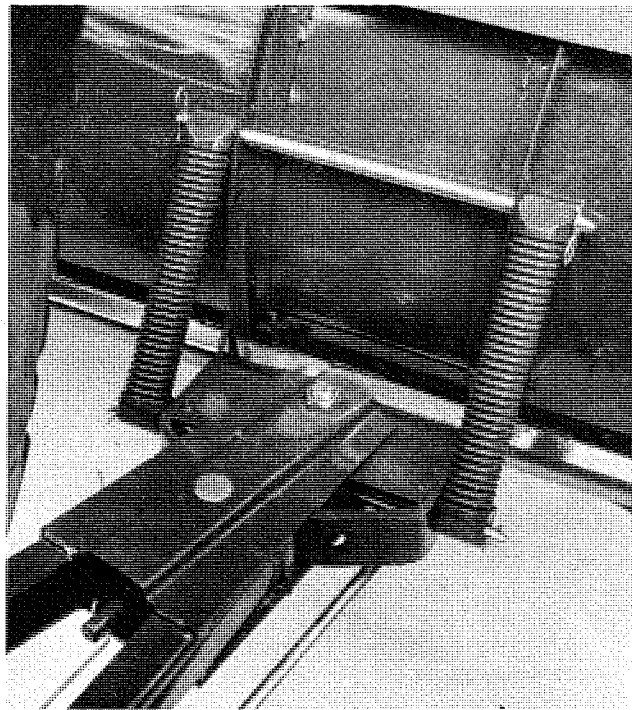

FIG. 2
4. Remove the large $\frac{3}{4}$ nut and bolt holding the pilot sector. Remove the pivot sector. The blade control rod, Part No. 104338, is inserted through the bottom of the pivot sector, and secured with the hairpin cotter. Bolt the pivot sector, Part No. 5102, to the frame assembly using the hex bolt, Part No. 908256, and Part No. 915640, elastic stop nut. (NOTE: Apply a liberal coat of grease before installing.) Install the bolt from the bottom and tighten, leaving it loose enough for the blade to swing free. See Fig. 2. Attach the control rod to the index lever.
5. Attach the blade assembly, Part No. 5109, to the pivot sector using Part No. 4564, lower pivot rod, and two $\frac{1}{8}$ " x 1" cotter pins, Part No. 932017. Next, install the two springs with the pivot rods, Part No. 5120. Fasten to the pivot sector first, with two of the hairpin cotters. Insert the other pivot rod in the blade angles. The angle of the blade will be determined by the hole in which the pivot rod is placed. For general use, the second hole down from the top is used. Tilt forward for earth spreading; tilt back for more aggressive action. See Fig. 2.